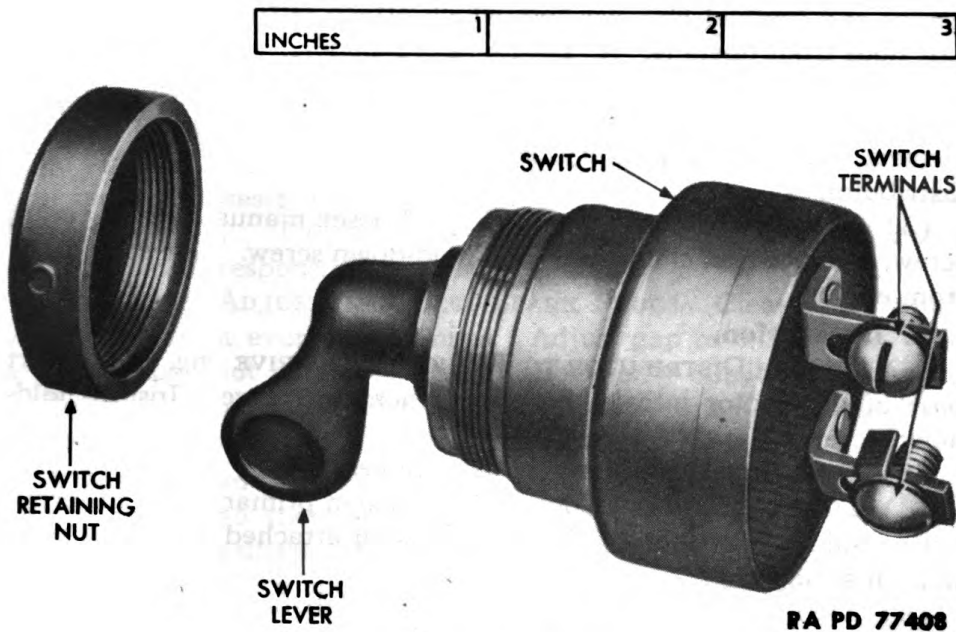

Figure 53 — Ignition Switch
(1) **DESCRIPTION** (fig. 53). A lever-type ignition switch is located near the lower center of the instrument panel. No lock or key is provided. The "live" wire is connected to the ammeter battery post, and the lead wire to the filter below the ignition coil. Another wire from the lead terminal diverts current to operate the fuel gage.
(2) TABULATED DATA.
b. Removal (fig. 53). Disconnect all three wires from the two terminals on rear of switch. Screw switch retaining nut from face of instrument panel. Pull switch from reverse side of panel.
c. Installation (fig. 53). Insert switch, lever first, through its opening in instrument panel from reverse side of panel. Turn switch so lever points down, and install switch retaining nut. Connect leads from circuit breaker and from terminal block to top terminal on switch. Connect "live" lead from ammeter battery post to lower terminal on switch. Start engine. Satisfactory engine performance indicates proper switch installation.